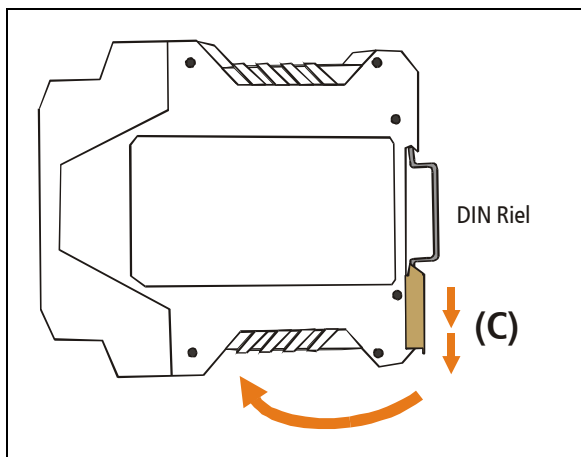

Figure 16 - Disassembling of the device
To disassemble the device of the rail DIN (figure 16), pull down the metallic clip and then remove it (C).